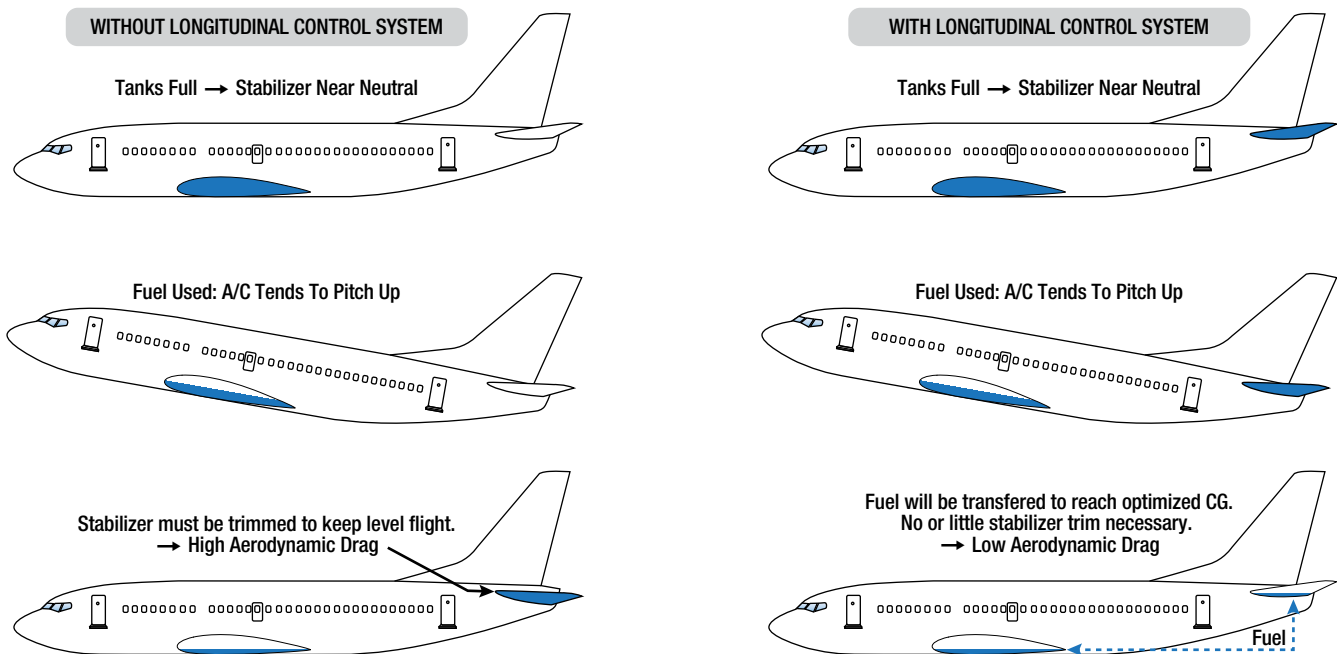
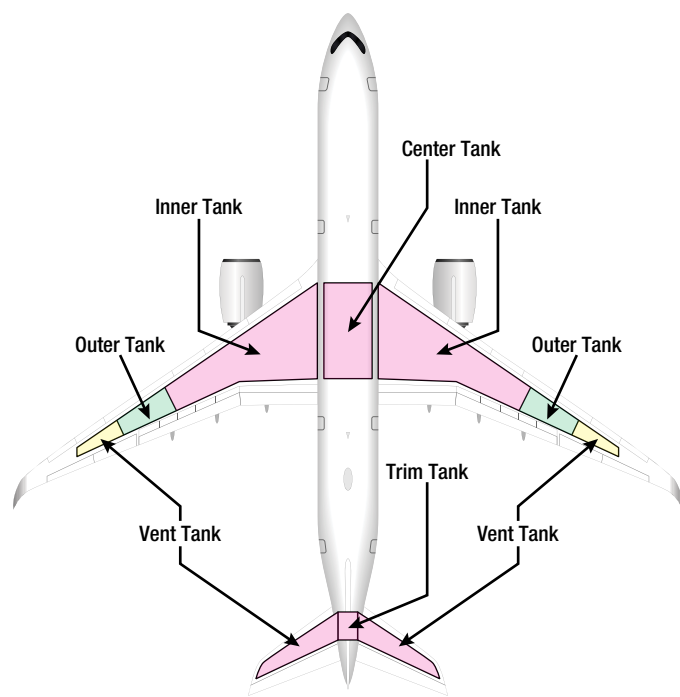

Figure 13-48. Benefits of longitudinal balance fuel system.
Figure 13-49. Airbus A330 Fuel system tank and trim tank arrangement.
The center of gravity (CG) of an aircraft is the point where all of the weight of the aircraft is considered to be located. Where the weight is placed in the airplane is a major factor that has a tremendous effect on how well the airplane will fly. Because of this, the CG of the airplane must be maintained within the limits prescribed by the manufacturer in order for the aircraft to be flown safely. If the CG gets too far forward or too far back the aircraft will be out of balance and difficult, if not impossible to control. CG control is especially important during flight phase. To operate an aircraft as economical as possible, the center of gravity should be held in a range where the horizontal stabilizer is as streamlined as possible. This means that the stabilizer trim settings should be close to 0° (Zero) in cruise. In flight, these adjustments are done by transferring fuel. [Figure 13-48] Fuel tanks designated as trim tanks are used to carry the fuel that is transferred to maintain longitudinal balance. [Figure 13-49]